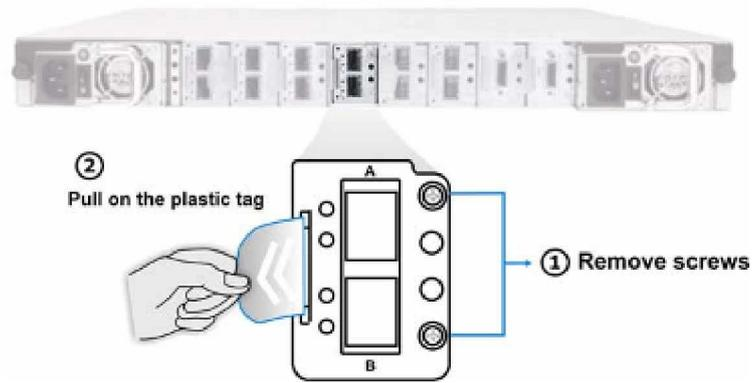

Figure 5-11: Removing an I/O Module
- Step 2. Remove the I/O module retention screws.** The I/O module is secured to the controller head by two (2) retention screws on the right hand side. Remove the retention screws and keep them for use later. (See **Figure 5-11**)